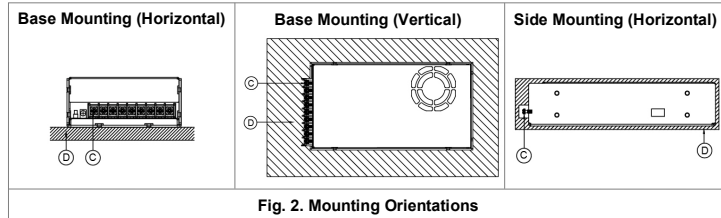
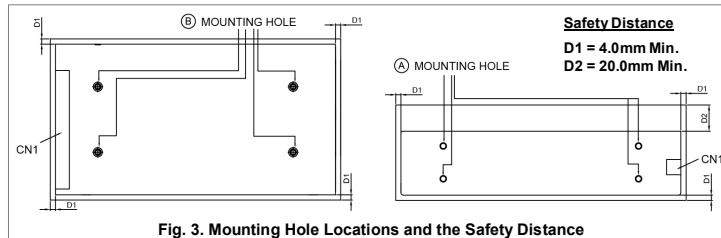
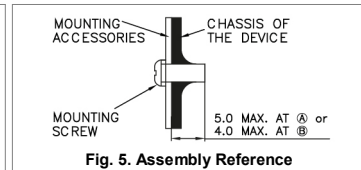

Fig. 2. Mounting Orientations
Fig. 3. Mounting Hole Locations and the Safety Distance
Fig. 5. Assembly Reference
- For safety reasons, please ensure the mounted device is kept at  $\geq 4\text{mm}$  safety distance at all sides from other components and equipments. In addition, to ensure sufficient convection cooling, always maintain a distance of  $\geq 20\text{mm}$  from fan ventilated surfaces while the device is in operation. Please insert an insulation sheet between the system and product, if the safety distance is  $< 4\text{mm}$  (Refer to Fig. 3).
- ① Input & Output terminal block connector
- ② DC voltage adjustment potentiometer
- ③ DC OK control LED (Green)
- ④ AC selectable switch
- Ⓐ Side Mounting: Fig. 2 and Fig. 3 show the mounting hole locations for power supply assembly onto a metal mounting surface. The power supply shall be mounted on minimum of 4 mounting holes using M4 screw of maximum 5mm length (Refer to Fig. 5). This is to maintain a safety distance between the screw and internal components.
- Ⓑ Base Mounting: Fig. 2 and Fig. 3 show the mounting hole locations for power supply assembly onto a metal mounting surface. The power supply shall be mounted on minimum of 4 mounting holes using M4 screw of maximum 4mm length (Refer to Fig. 5). This is to maintain a safety distance between the screw and internal components.
- Ⓒ Fig. 2: Connector
- Ⓓ Fig. 2: This surface belongs to customer's end system or panel where the device is mounted.